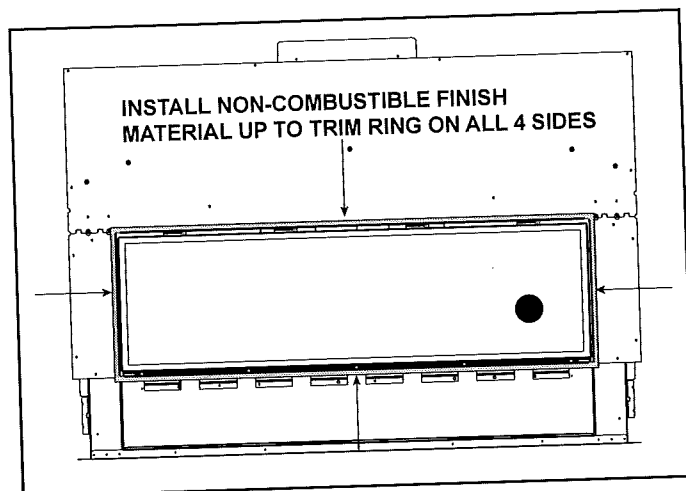

Figure 2. Install Non-Combustible Material
The trim ring acts as a finishing template in this application. Non-combustible finishing material, one to four inches thick, will be installed up to the outside edges of the trim ring as shown in Figure 2. Note that the CFT decorative front is the only decorative front approved for MEZZO and CRAVE models that allows finishing material thickness to be greater than one inch.
2. Install non-combustible finishing material up to the outer edges of the trim ring as shown in Figure 2.